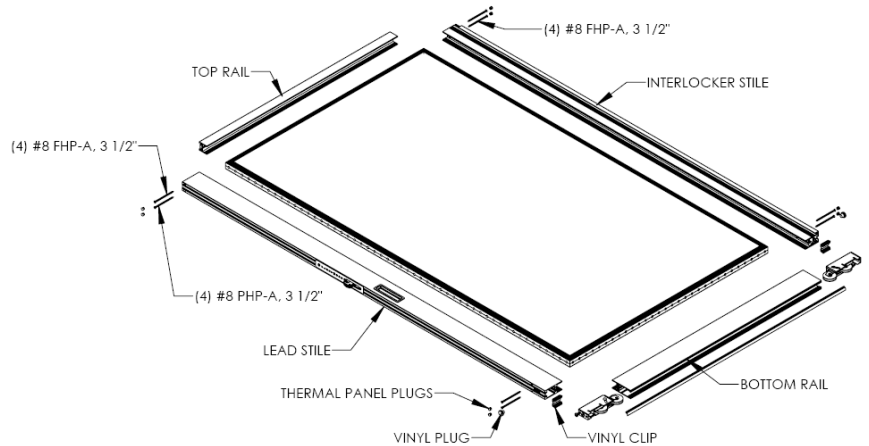

Figure 3:
7. Secure the stiles to the rails with (4) #8 x 3 1/2" flat head screws in the top and bottom rails for the interlockers and (4) #8 x 2 1/2" pan head screws for lead stile (Figures 3 & 4).